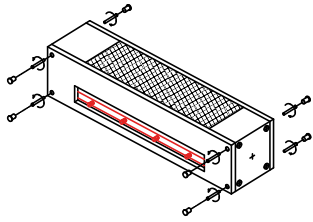

Fig. 18
1. remove the 4 + 4 caps on the 4 corners of the rear and front panels so as to access the panel fastening screws (Fig. 18);
7. inserting the M8 washers between the brackets and the panels (Fig. 18);